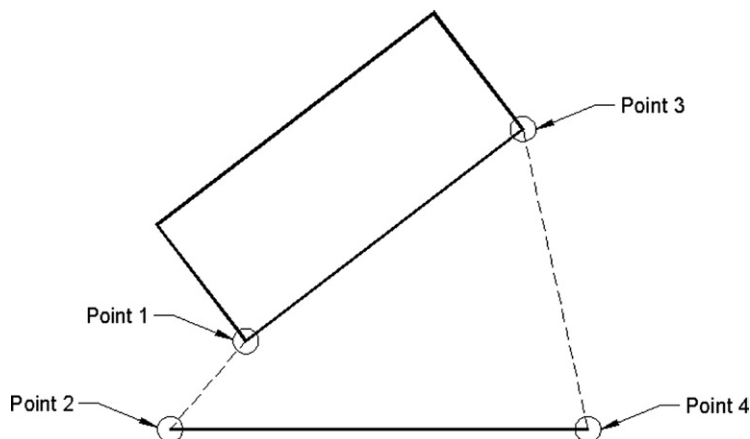

FIGURE 15.2
- Step 3.** Pick the lower left corner of the rectangle using the `ENDpoint OSNAP` (point 1 in Figure 15.2).
- Step 4.** Pick the left point of the line using the `ENDpoint OSNAP` (point 2 in Figure 15.2).
- Step 5.** Pick the lower right corner of the rectangle using the `endpoint OSNAP` (point 3 in Figure 15.2).
- Step 6.** Pick the right point of the line using the `ENDpoint OSNAP` (point 4 in Figure 15.2).